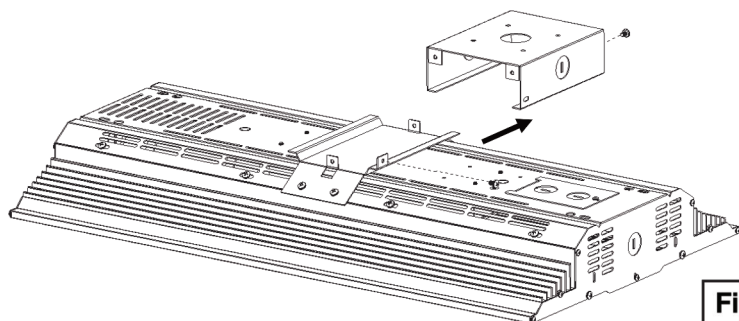

Fig. 4
Slide the assembled fixture onto the top mounting bracket attached to the stem/pole. Secure the fixture to the bracket using the two (2) screws shown in **Fig. 4**. Wire the input wires to the fixture.